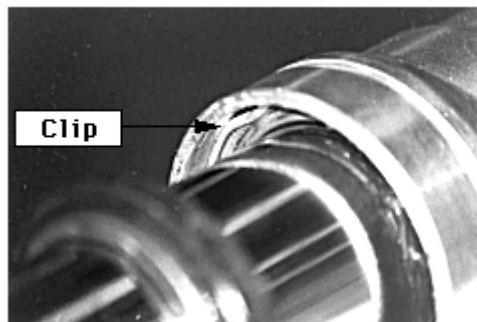

Fig 6
9. Slide the dust seal up and remove the retainer clip, **fig 6**.